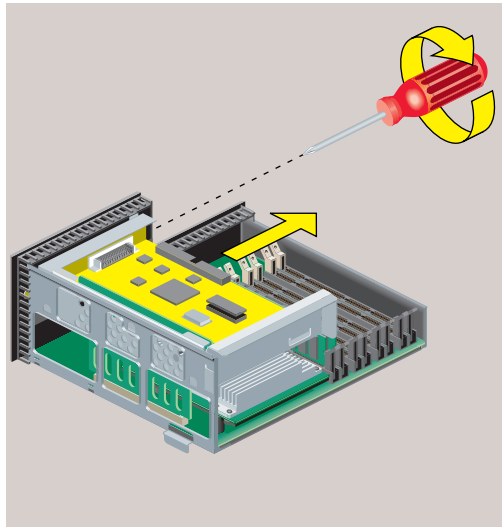

Figure 2-26 Removing the Screw That Secures the PCI Board
1. Remove the screw that secures the PCI board (Figure 2-26).